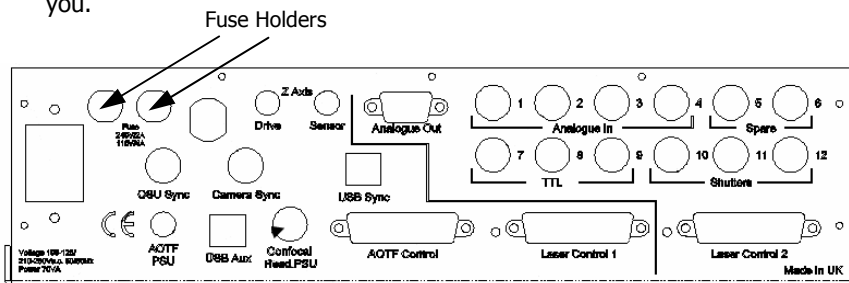

Figure 7 Rear view of ERS Control Box
2. Turn the fuse holder on the rear of the control box (see Figure 7) a quarter turn anticlockwise using a flat-headed screwdriver and gently pull out towards you.